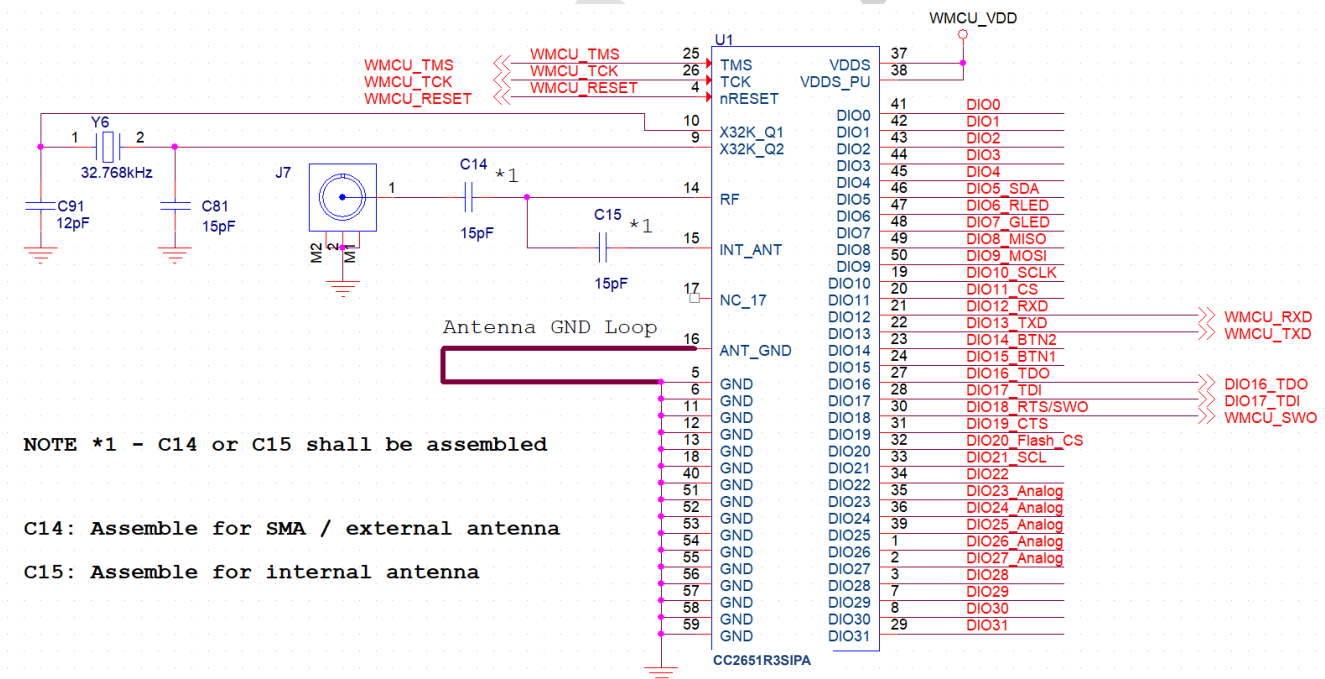

Figure 10-1. CC2651R3SIPA Typical Application Schematic
Figure 10-1 shows the typical application schematic using the the CC2651R3SIPA module. Note that C15 should be assembled when using the integrated antenna option within the module. C14 should be assembled if the module is to be used with an external antenna. In addition if using the external antenna option, Pin 16 of the module can be left unconnected. For the full reference schematic, download the LP-CC2651R3SIPA Design Files.
Table 10-1 provides the bill of materials for a typical application using the CC2651R3SIPA module in Figure 10-1.
In order to meet the module power-on-reset requirements, VDDS (Pin 37) and VDDS_PU (Pin 38) should be connected together. If the reset signal is not based upon a power-on-reset and is derived from an external MCU, then VDDS_PU (Pin 38) should be No Connect (NC). Please refer to Figure 10-1 for the recommended circuit implementation.